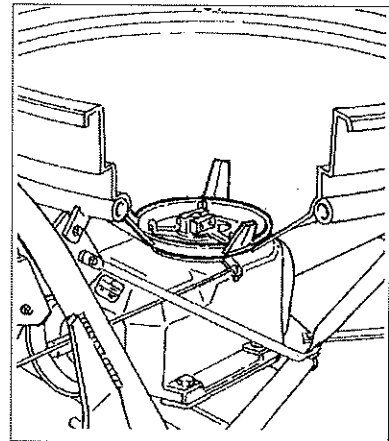

Fig.12
- Long-fingered agitator for damp and powdery fertilizers (Fig.12)